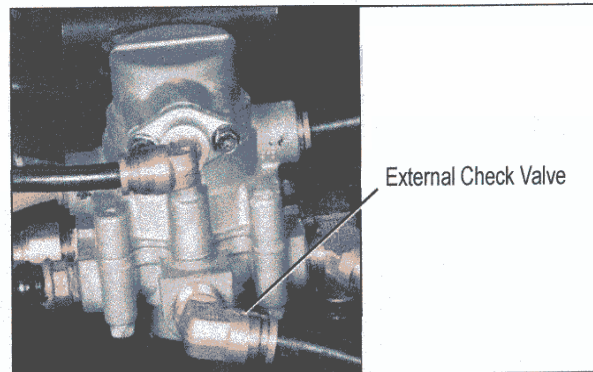

Figure 2 - SR-7™ VALVE AND EXTERNAL CHECK VALVE
3. If an external check valve is present, disconnect the air line to the check valve and remove the check valve. See Figures 2 through 5. **Note:** Some SR-7™ valves may have a fitting between the check valve and the SR-7™ valve.